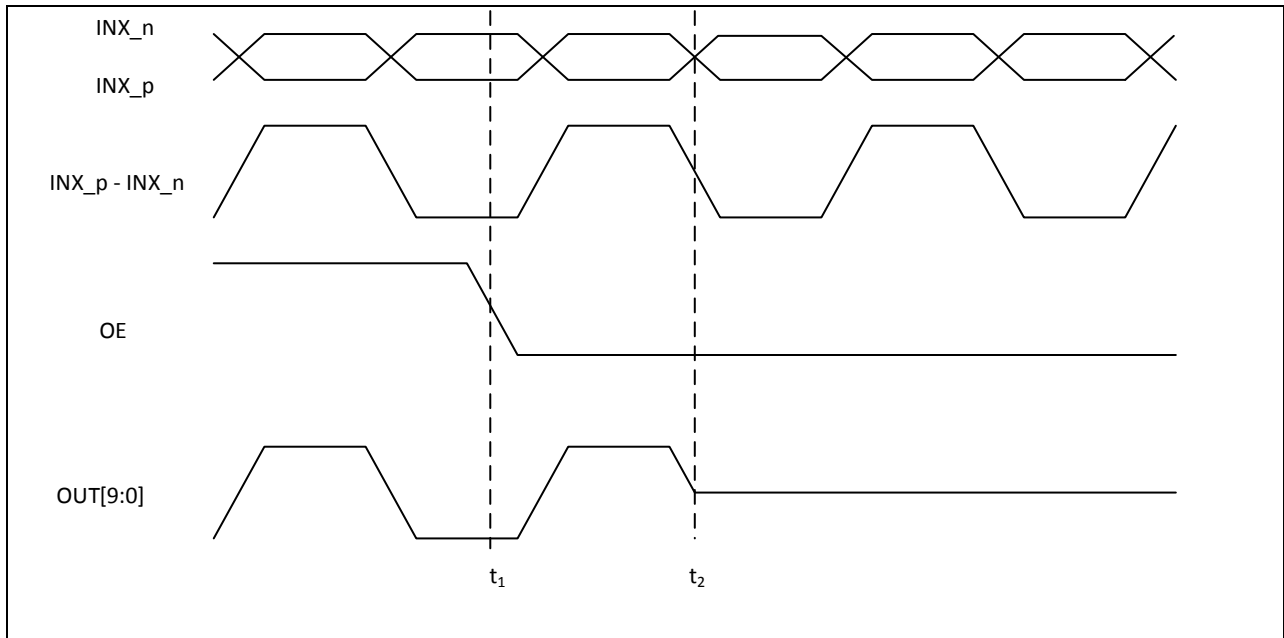

Figure 18. OE Output Disable
ZL40241 is controlled via Output Enable (OE) and Input Select (SEL0/1) input pins. Output is disabled synchronously on the falling edge of the input (t_2) as shown in Figure 18.